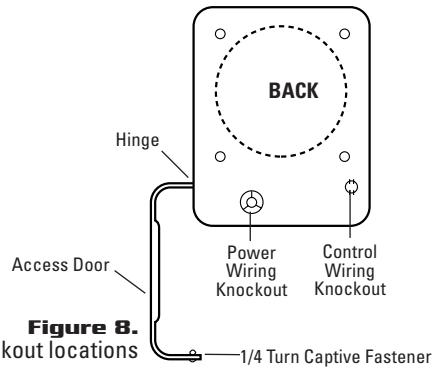

Figure 8.
1. Wiring compartment access door is hinged. To open, turn single screw on the side 1/4 turn (see Figure 8). Do not try to remove screw.
2. A knockout is provided in the back of the unit for field wiring (See Figure 8). This is a multiple diameter knockout. Use the diameter that fits the required conduit size.